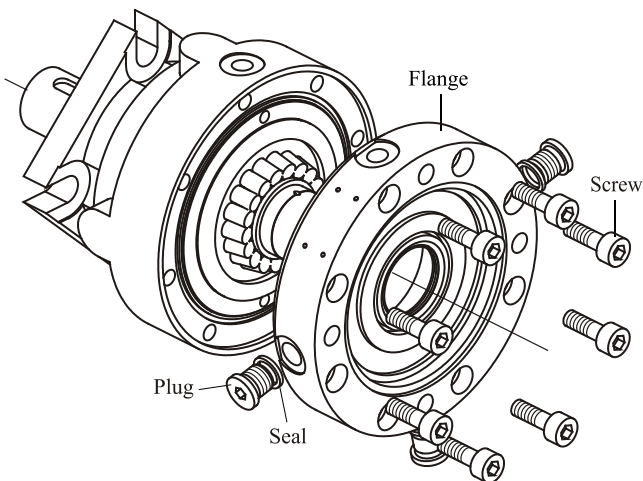

Fig.1
Remove flange incl. shaft seal and outer rim of bearing (see Fig. 1).
- drain port in flange should be rotated 11° left of release port in housing (see Fig.1).
15. Mount flange to housing with 8 screws M8 and alternately torque them to 2,5÷3,0 daNm using S6 Allen head spanner (see Fig.1).
16. Install seal on plug and torque to 2,5÷3,0 daNm using S6 Allen head spanner (see Fig.1). For LBS plugs are 3 pcs. and for LBV – 4 pcs.